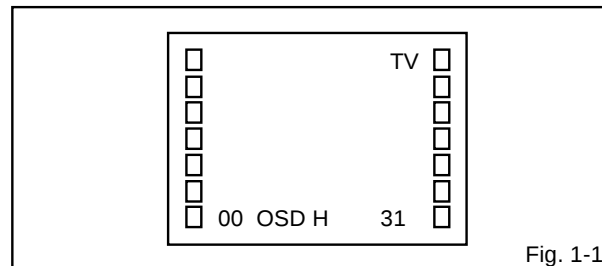

Fig. 1-1
1. In the condition of NO indication on the screen. Press the VOL. DOWN button on the set and the Channel button (**9**) on the remote control for more than 1 second to appear the adjustment mode on the screen as shown in **Fig. 1-1**.
4. Activate the adjustment mode display of **Fig. 1-1** and press the channel button (**03**) on the remote control to select "V. VCO".
4. Activate the adjustment mode display of **Fig. 1-1** and press the channel button (**02**) on the remote control to select "RF AGC".
3. Activate the adjustment mode display of **Fig. 1-1** and press the channel button (**01**) on the remote control to select "CUT OFF".
4. Activate the adjustment mode display of **Fig. 1-1** and press the channel button (**10**) on the remote control to select "R. BIAS".
3. Activate the adjustment mode display of **Fig. 1-1** and press the channel button **(22)** on the remote control to select "TINT".
6. Activate the adjustment mode display of **Fig. 1-1** and press the channel button **(19)** on the remote control to select "COL.CENT".
11. Activate the adjustment mode display of **Fig. 1-1** and press the channel button **(22)** on the remote control to select "TINT".
14. Activate the adjustment mode display of **Fig. 1-1** and press the channel button **(19)** on the remote control to select "COL.CENT".
3. Activate the adjustment mode display of **Fig. 1-1** and press the channel button **(05)** on the remote control to select "H.PHAS".
2. Activate the adjustment mode display of **Fig. 1-1** and press the channel button **(07)** on the remote control to select "V.SFT".
3. Activate the adjustment mode display of **Fig. 1-1** and press the channel button **(06)** on the remote control to select "V.SIZE".
1. Activate the adjustment mode display of **Fig. 1-1**.